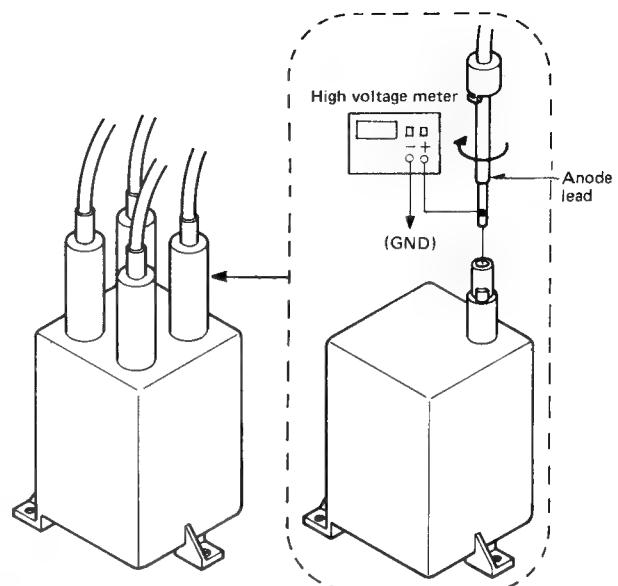

Fig. 17
- Connect the high voltage meter to anode lead of the distributer as shown in Fig. 17.